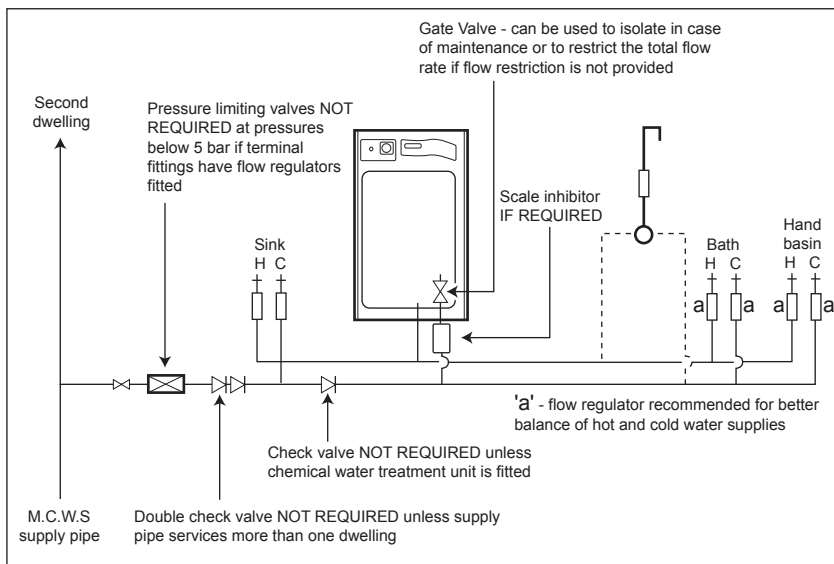

Figure 4.1 Typical hot and cold water distribution pipework in a dwelling
- (a) mCHP_BoilerMate is designed to be connected directly to the mains and fulfil the requirements of Water Byelaw 91 and therefore do not require a check valve to be fitted to the supply pipe. However, should ancillary equipment requiring a non-return valve, is to be fitted to the same mains supply as the BoilerMate, then this valve must not be fitted between the inlet of this mains supply to the property and the BoilerMate (see figure 4.1).
- (i) *Cold feed and open vent:* The BoilerMate thermal store acts as the neutral point of the system. The open vent (22mm copper or equivalent) and the cold feed/expansion pipe (15mm copper or equivalent) should be run from the BoilerMate to the expansion cistern as shown schematically in figure 4.1.